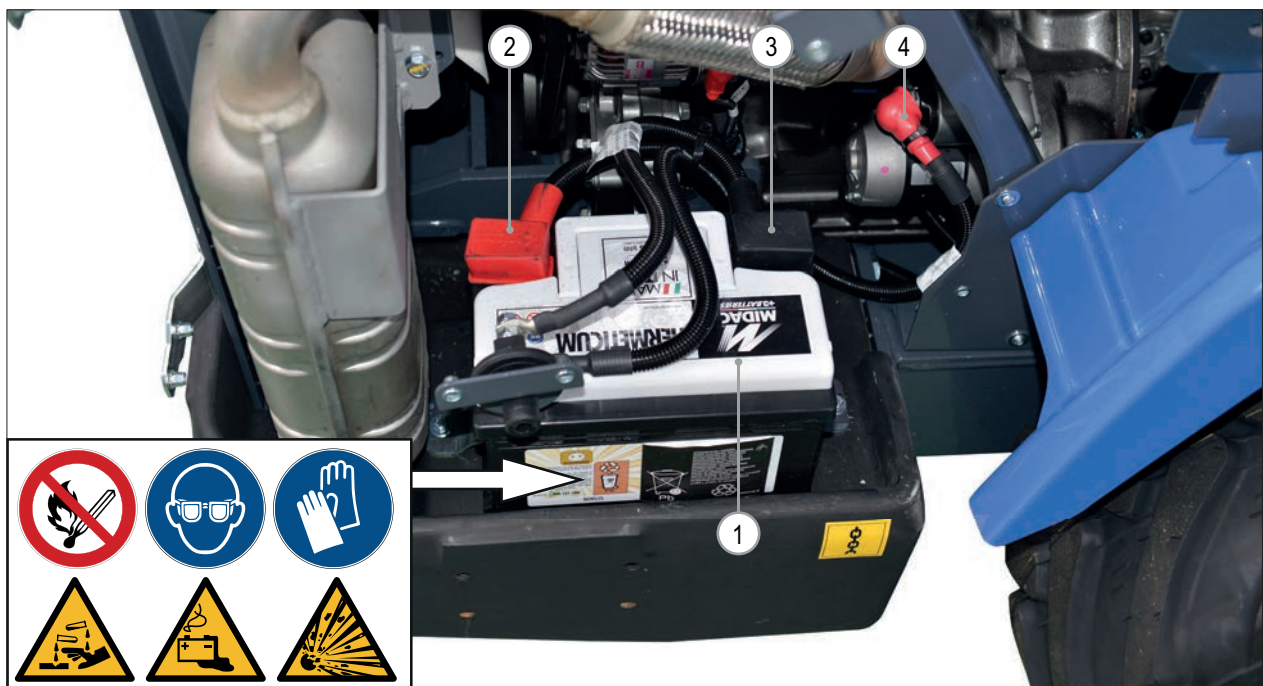

FIG. 42
- The battery (FIG. 42 - Ref. 1) is intact and not leaking.
- Check power cable connections (FIG. 42 - Ref. 2 - 3) for signs of leaking, corrosion, or damage.